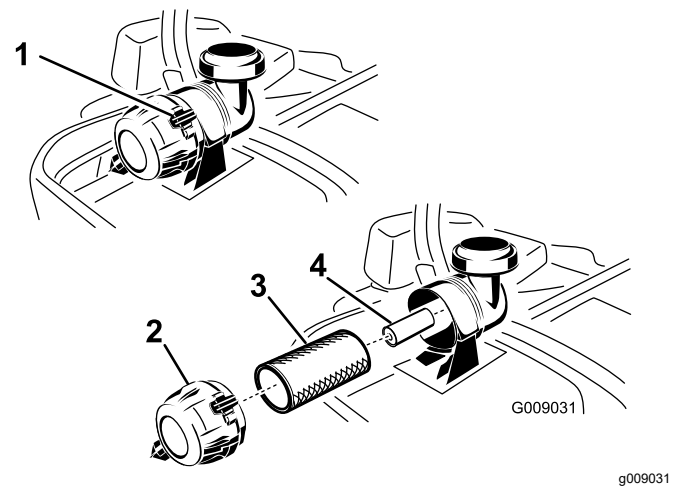

Figure 66
5. Gently slide the primary filter out of the air-cleaner body (Figure 66).
3. Release the retaining clamps on the air cleaner and pull the air-cleaner cover off the air-cleaner body (Figure 66).
2. If you are replacing the inner filter, carefully slide it into the filter body (Figure 66).
3. Carefully slide the primary filter over the safety filter (Figure 66).
4. Install the air-cleaner cover with the breather cap down, and rotate so that the retaining clamps lock the cover in place (Figure 66).